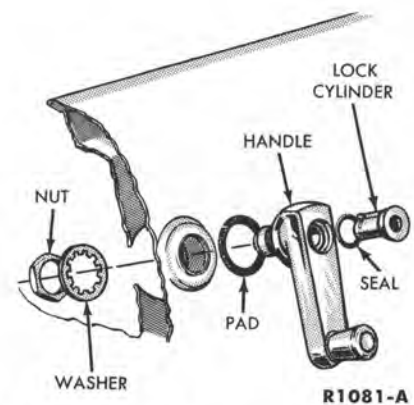

FIG. 30—1960 Tailgate Window Regulator Handle
3. Remove the nut and star-washer retaining the handle and lock assembly, and then remove the handle and rubber pad (Fig. 30).